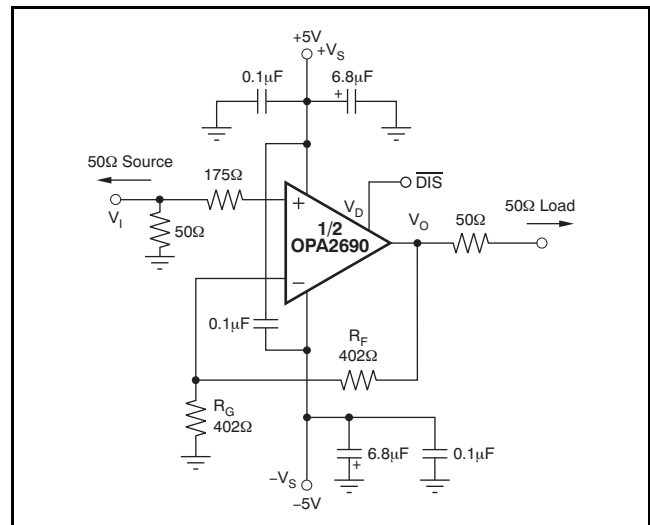
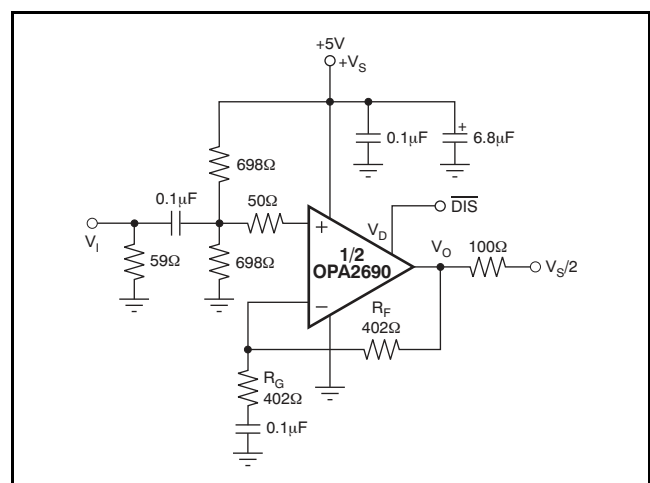
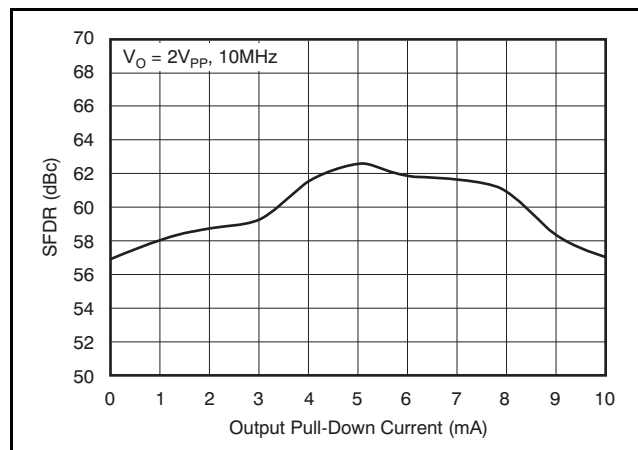
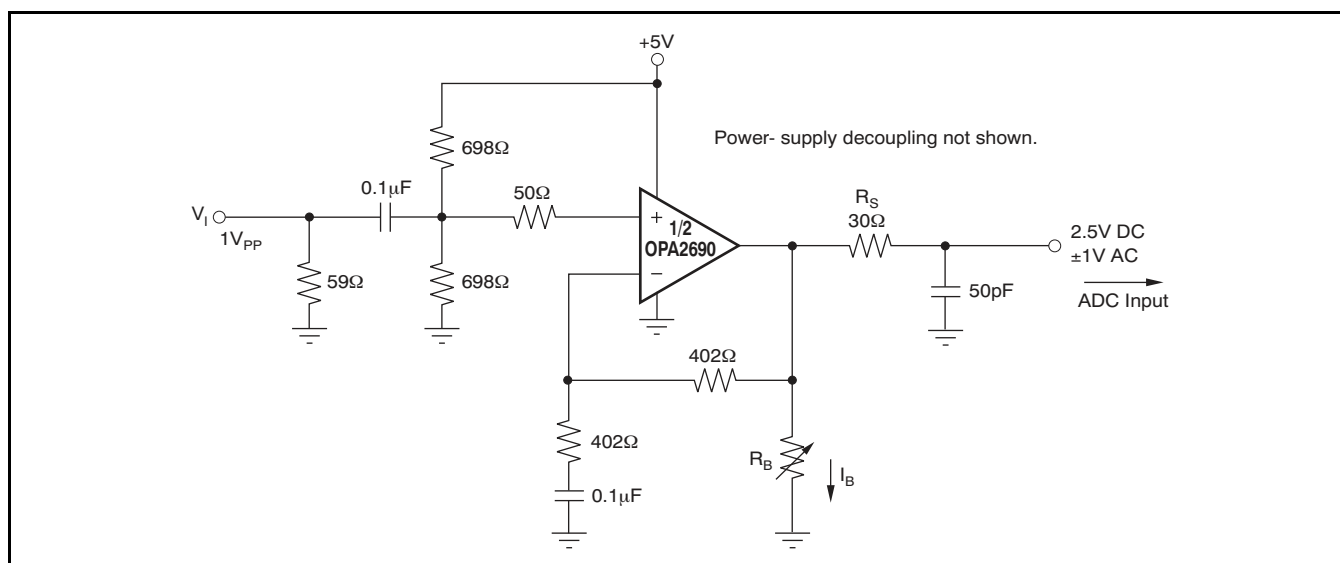

Figure 36. DC-Coupled, G = +2, Bipolar-Supply Specification and Test Circuit
Figure 37. AC-Coupled, G = +2, Single-Supply Specification and Test Circuit
Figure 38. SFDR vs  $I_B$
Figure 39. SFDR versus  $I_B$  Test Circuit
At  $T_A = +25^\circ C$ ,  $G = +2$ ,  $R_F = 402\Omega$ , and  $R_L = 100\Omega$  (see Figure 36 for ac performance only), unless otherwise noted.
At  $T_A = +25^\circ\text{C}$ ,  $G = +2$ ,  $R_F = 402\Omega$ , and  $R_L = 100\Omega$  (see Figure 37 for ac performance only), unless otherwise noted.
Figure 36 shows the dc-coupled, gain of +2, dual power supply circuit configuration used as the basis of the  $\pm 5$ V *Electrical Characteristics* and *Typical Characteristics*. This is for one channel; the other channel is connected similarly. For test purposes, the input impedance is set to 50 $\Omega$  with a resistor to ground and the output impedance is set to 50 $\Omega$  with a series output resistor. Voltage swings reported in the *Electrical Characteristics* are taken directly at the input and output pins, while output powers (dBm) are at the matched 50 $\Omega$  load. For the circuit of Figure 36, the total effective load will be 100 $\Omega$  || 804 $\Omega$ . The disable control line (SO-14 package only) is typically left open for normal amplifier operation. Two optional components are included in Figure 36. An additional resistor (175 $\Omega$ ) is included in series with the noninverting input. Combined with the 25 $\Omega$  dc source resistance looking back towards the signal generator, this gives an input bias current cancelling resistance that matches the 200 $\Omega$  source resistance seen at the inverting input (see the *DC Accuracy and Offset Control* section). In addition to the usual power-supply decoupling capacitors to ground, a 0.1 $\mu$ F capacitor is included between the two power-supply pins. In practical printed circuit board (PCB) layouts, this optional-added capacitor will typically improve the 2nd-harmonic distortion performance by 3dB to 6dB.
Figure 37 shows the ac-coupled, gain of +2, single-supply circuit configuration used as the basis of the +5V *Electrical Characteristics* and *Typical Characteristics*. Though not a rail-to-rail design, the OPA2690 requires minimal input and output voltage headroom compared to other very wideband voltage-feedback op amps. It will deliver a 3VPP
output swing on a single +5V supply with > 150MHz bandwidth. The key requirement of broadband single-supply operation is to maintain input and output signal swings within the usable voltage ranges at both the input and the output. The circuit of Figure 37 establishes an input midpoint bias using a simple resistive divider from the +5V supply (two 698 $\Omega$  resistors). Separate bias networks would be required at each input. The input signal is then ac-coupled into the midpoint voltage bias. The input voltage can swing to within 1.5V of either supply pin, giving a 2VPP input signal range centered between the supply pins. The input impedance matching resistor (59 $\Omega$ ) used for testing is adjusted to give a 50 $\Omega$  input load when the parallel combination of the biasing divider network is included.
Most modern, high-performance ADCs (such as the TI ADS8xx and ADS9xx series) operate on a single +5V (or lower) power supply. It has been a considerable challenge for single-supply op amps to deliver a low distortion input signal at the ADC input for signal frequencies exceeding 5MHz. The high slew rate, exceptional output swing, and high linearity of the OPA2690 make it an ideal single-supply ADC driver. The circuit on the front page shows one possible interface particularly suited to differential I/O, ac-coupled requirements. Figure 39 shows the test circuit of Figure 37 modified for a capacitive (ADC) load and with an optional output pull-down resistor ( $R_B$ ). This circuit would be suitable to dual-channel ADC driving with a single-ended I/O.
The OPA2690 in the circuit of Figure 39 provides > 200MHz bandwidth for a 2VPP output swing. Minimal 3rd-harmonic distortion or two-tone, 3rd-order intermodulation distortion will be observed due to the very low crossover distortion in the OPA2690 output stage. The limit of output Spurious-Free Dynamic Range (SFDR) will be set by the 2nd-harmonic distortion. Without  $R_B$ , the circuit of Figure 39 measured at 10MHz shows an SFDR of 57dBc. This can be improved by pulling additional dc bias current ( $I_B$ ) out of the output stage through the optional  $R_B$  resistor to ground (the output midpoint is at 2.5V for Figure 39). Adjusting  $I_B$  gives the improvement in SFDR shown in Figure 38. SFDR improvement is achieved for  $I_B$  values up to 5mA, with worse performance for higher values. Using the dual OPA2690 in an I/Q receiver channel will give matched ac performance through high frequencies.
A good rule of thumb is to target the parallel combination of  $R_F$  and  $R_G$  (see Figure 36) to be less than approximately 300Ω. The combined impedance  $R_F \parallel R_G$  interacts with the inverting input capacitance, placing an additional pole in the feedback network and thus, a zero in the forward response. Assuming a 2pF total parasitic on the inverting node, holding  $R_F \parallel R_G < 300\Omega$  will keep this pole above 250MHz. By itself, this constraint implies that feedback resistor  $R_F$  can increase to several kΩ at high gains. This is acceptable as long as the pole formed by  $R_F$  and any parasitic capacitance appearing in parallel is kept out of the frequency range of interest.
Voltage-feedback op amps exhibit decreasing closed-loop bandwidth as the signal gain is increased. In theory, this relationship is described by the Gain Bandwidth Product (GBP) shown in the Electrical Characteristics. Ideally, dividing GBP by the noninverting signal gain (also called the Noise Gain, or NG) will predict the closed-loop bandwidth. In practice, this only holds true when the phase margin approaches 90°, as it does in high gain configurations. At low gains (increased feedback factors), most amplifiers will exhibit a more complex response with lower phase margin. The OPA2690 is compensated to give a slightly peaked response in a noninverting gain of 2 (see Figure 36). This results in a typical gain of +2 bandwidth of 220MHz, far exceeding that predicted by dividing the 300MHz GBP by 2. Increasing the gain will cause the phase margin to approach 90° and the bandwidth to more closely approach the predicted value of (GBP/NG). At a gain of +10, the 30MHz bandwidth shown in the Electrical Characteristics agrees with that predicted using the simple formula and the typical GBP of 300MHz.
The frequency response in a gain of +2 may be modified to achieve exceptional flatness simply by increasing the noise gain to 2.5. One way to do this, without affecting the +2 signal gain, is to add an 804Ω resistor across the two inputs in the circuit of Figure 36. A similar technique may be used to reduce peaking in unity-gain (voltage follower) applications. For example, by using a 402Ω feedback resistor along with a 402Ω resistor across the two op amp inputs, the voltage follower response will be similar to the gain of +2 response of Figure 37. Reducing the value of the resistor across the op amp inputs will further limit the frequency response due to increased noise gain.
Since the OPA2690 is a general-purpose, wideband voltage-feedback op amp, all of the familiar op amp application circuits are available to the designer. Inverting operation is one of the more common requirements and offers several performance benefits. Figure 47 shows a typical inverting configuration where the I/O impedances and signal gain from Figure 36 are retained in an inverting circuit configuration.
The second major consideration, touched on in the previous paragraph, is that the signal source impedance becomes part of the noise gain equation and influences the bandwidth. For the example in Figure 47, the  $R_M$  value combines in parallel with the external  $50\Omega$  source impedance, yielding an effective driving impedance of  $50\Omega \parallel 67\Omega = 28.6\Omega$ . This impedance is added in series with  $R_G$  for calculating the noise gain (NG). The resultant NG is 2.8 for Figure 47, as opposed to only 2 if  $R_M$  could be eliminated as discussed above. The bandwidth will therefore be slightly lower for the gain of  $-2$  circuit of Figure 47 than for the gain of  $+2$  circuit of Figure 36.